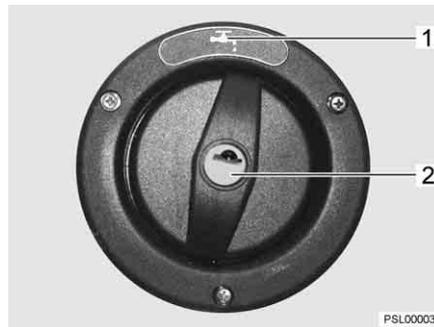

Fig. 181 Drinking water filler neck
The drinking water filler neck is indicated by the symbol "☞" (Fig. 181,1). The cap is open and closed using the key for the external flap locks.
- Insert key into locking cylinder (Fig. 181,2) and turn a quarter turn in an anticlockwise direction.
- Open drinking water filler neck (Fig. 181) (see chapter 6).